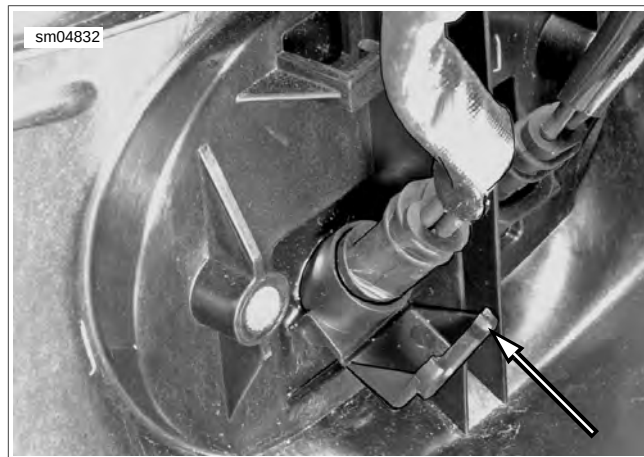

Figure 7-30. Voltage Regulator Connector Lock Clip
4. See Figure 7-30. Push straight down to remove stator to regulator connector [47] from metal clip on side of radiator cover.